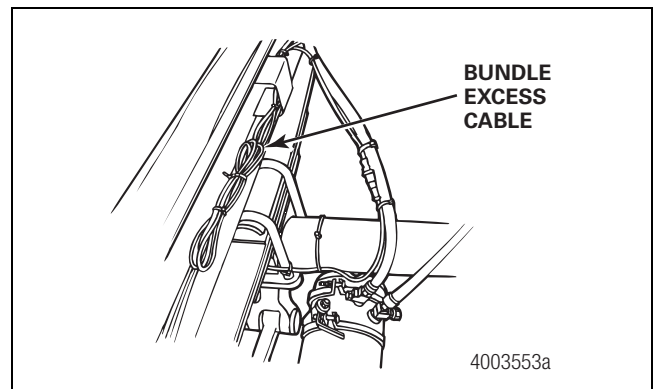

Figure 8
9. Bundle any excess cable in a loop (bow tie). Figure 8.